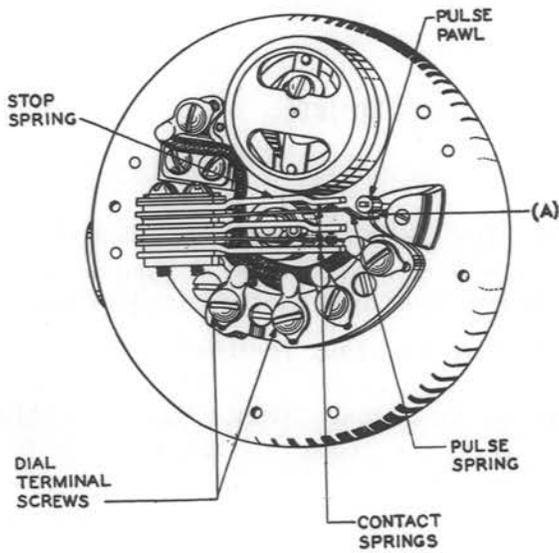

Fig. 2 - 2- and 4-Type Dials
2.05 Straightness of Contact Springs: Fig. 2,
(a) **Dials Equipped With Pulse Springs Having Offset at Outer End:** Fig. 2(A) — The pulse pawl shall strike the flat portion of the pulse spring and not the angular offset.
(b) **2- and 4-Type Dials:** Fig. 2(A) — The clearance between the pulse pawl and the pulse spring when the dial is at rest shall be